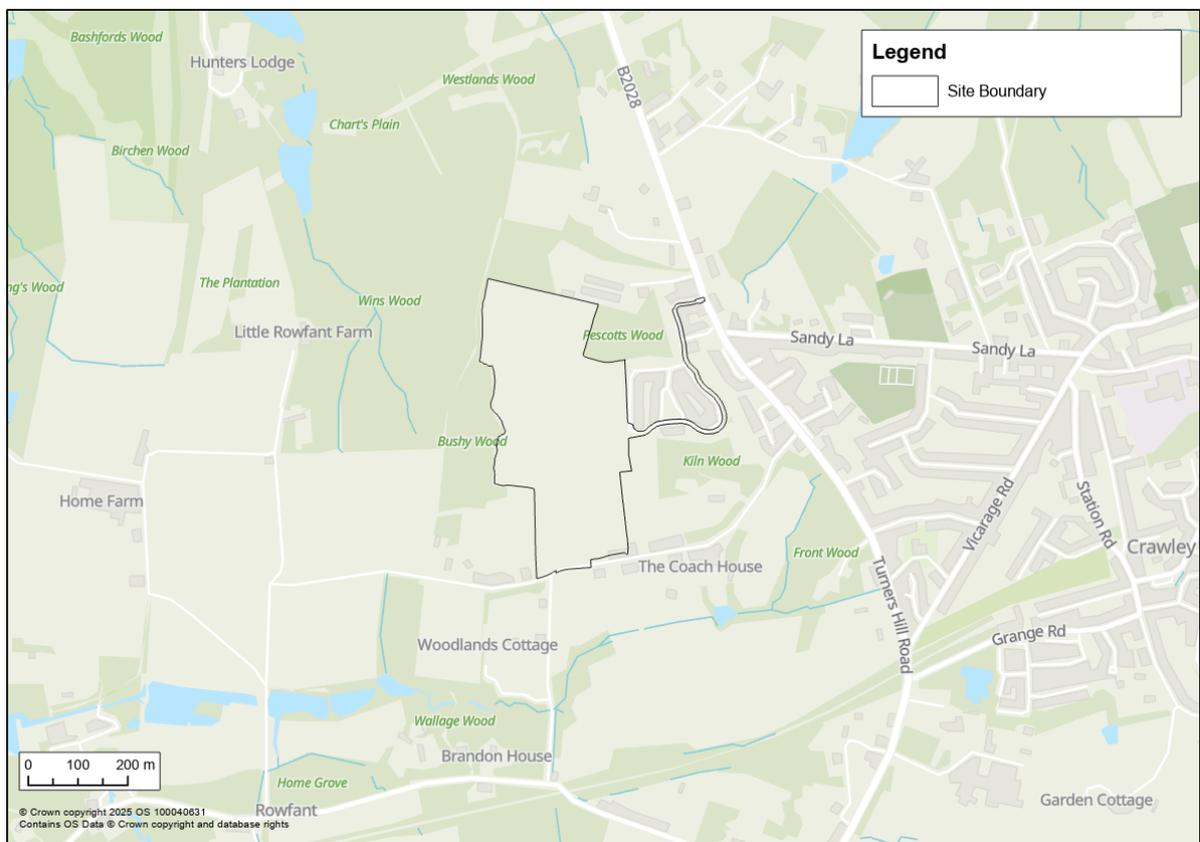

Figure 1: Site Boundary
- 2.1 The site is located in Crawley Down adjacent to Turners Hill Road (B2028). It is centred on approximate OS Eastings/Northings (E/N): 533508E, 137800N at postcode RH10 4HB (Figure 1).